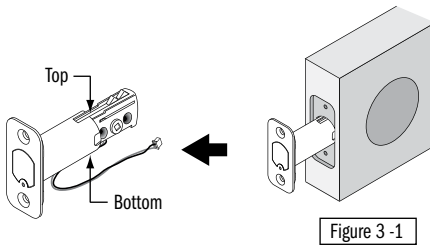

Figure 3-1
- Keeping the magnetic sensor cable underneath, insert the deadbolt latch through the edgebore. It is important to make sure the deadbolt latch is inserted right-side up. Make sure the cable is clearly out of the edgebore hole before fastening the faceplate so that it is not pinched. (Figures 3-1 and 3-2)